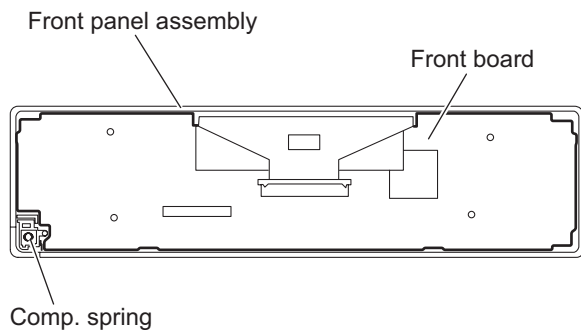

Fig.18
- (4) Take out the front board from the front panel assembly. (See Fig.18.)
When removing the rear cover assembly and front board, be careful not to lose the comp. spring. (See Fig.18.)